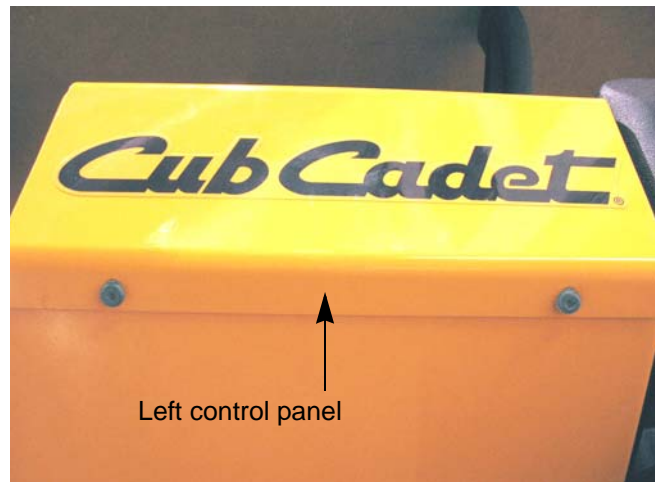

Figure 3.17
4. Remove the two screws from the underside of the left control panel using a T-30 torx driver. See Figure 3.17.